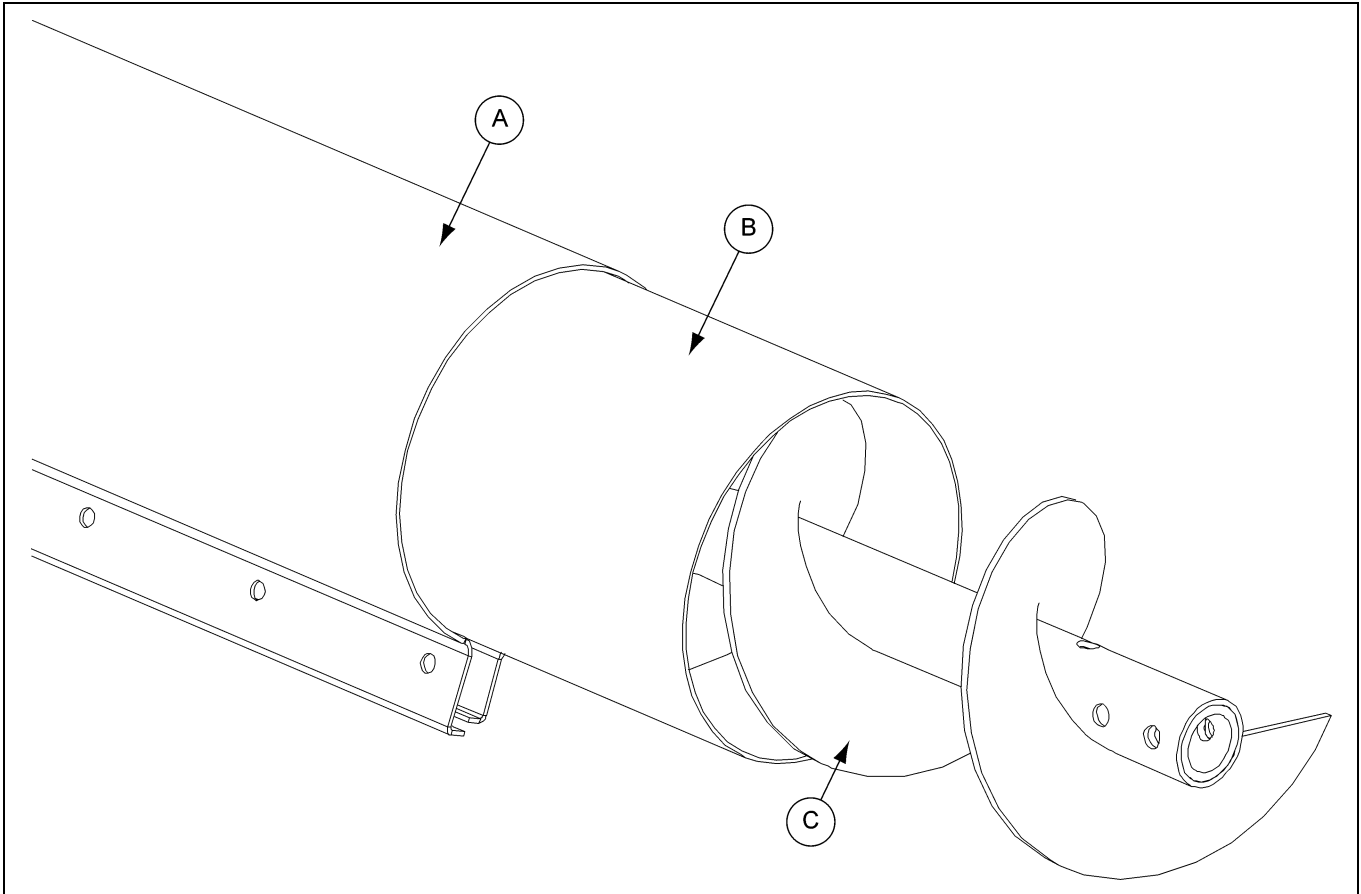

Figure 4A
1. Begin by sliding the extension connecting band (A) onto the main auger tube (B). (See Figure 4A.)